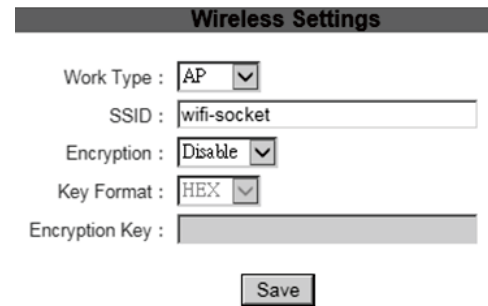

Figure15
3. In “Wireless Settings” column, the “Work Type” is working mode which select the default AP mode; “SSID” is WiFi device name, it can reserve the default name or define it; the rest category remain default, click “Save” button to save the setting(Figure15).